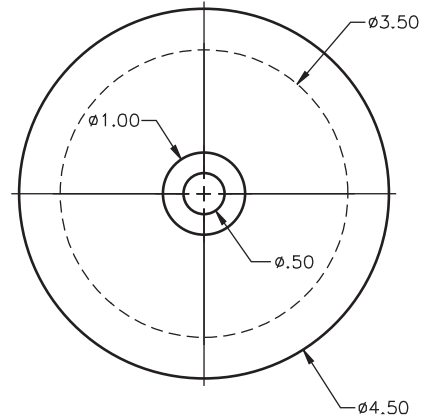

Fig. 32-1
4. Create the drawing of the pulley wheel shown in Fig. 32-1 using the following guidelines: